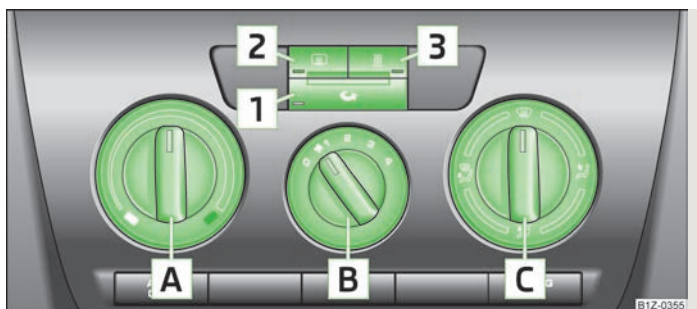

Fig. 88 Heating: Control elements
- Turn the control dial **A** » Fig. 88 to the right to increase the temperature.
- Turn the blower switch **B** » Fig. 88 into one of the positions, 1 to 4, to switch the blower on.
- The direction of the inlet air flow is controlled with air distribution regulator **C** » Fig. 88.
- Press the button **2** » Fig. 88. Further information » page 52.
- Press the button **3** » Fig. 88 to directly switch on/off the auxiliary heating (auxiliary heating and ventilation). Further information » page 92.
All controls apart from the blower switch **B** » Fig. 88 can be set to any desired intermediate position.
- Controls **A** » Fig. 88, **B**, **C** and the button **1**.
- Press the button **1** » Fig. 88 and the indicator light in the button illuminates.
- Press the button **1** » Fig. 88 again - the indicator light in the button goes out.
Recirculated air mode is switched off automatically if the air distribution control **C** » Fig. 88 is in position . Recirculated air mode can be switched on again from this setting by repeatedly pressing the button .